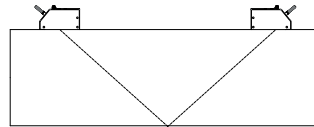

Fig. 3.6: Reflection arrangement
The transducers are mounted on the same side of the pipe (see Fig. 3.6).
- even if the measurement is conducted in the reflection arrangement (see Fig. 3.6).